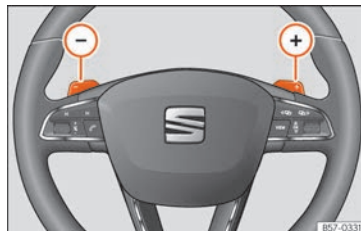

Fig. 223 Steering wheel: automatic gearbox levers
- Press the gearshift paddle  to select a higher gear » **Fig. 223**.